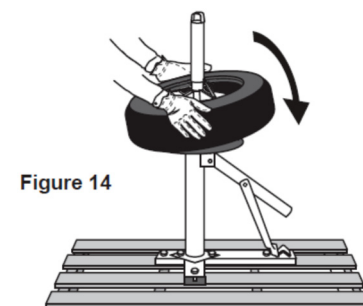

Figure 14
2. Set tyre on rim and push down on opposite ends of the tyre. See Figure 14.